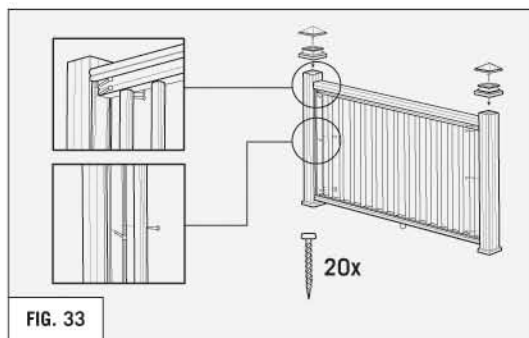

FIG. 33
6. Place railing assembly between posts. Attach mounting plate and rails using #8 x 3" screws. (REFER TO FIG. 33)